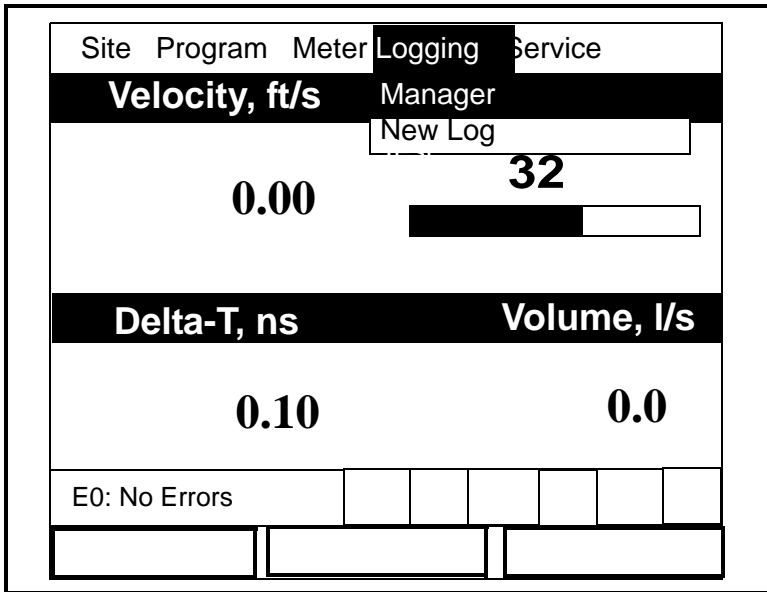

Figure 7-1: The Logging Menu
To enter the Logging Menu, press the [MENU] key at the lower right of the PT878 keypad. The Main Menu replaces the Status Bar at the top of the screen. Press the [▶] arrow key three times to scroll from the Site Menu to the Logging Menu. At the Logging Menu, press [ENTER]. The screen appears similar to Figure 7-1 below. Refer to Figure A-5 on page A-5 of Appendix A, *Menu Maps*.
- by scrolling to the New Log option in the Logging Menu (as shown in Figure 7-1 on page 7-2) and pressing [ENTER], or